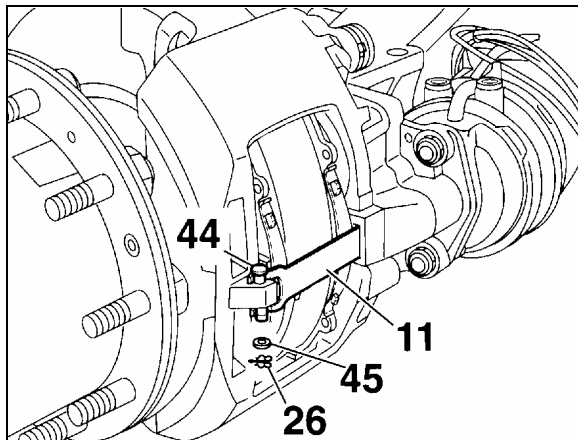

FIGURE 25: CLEARANCE INSPECTION
Remove clip and washer (26 & 45, Fig. 25), push down retainer bar (11), pull out pin (44) and remove retainer bar. Push caliper toward actuator (center of vehicle) for maximum clearance.